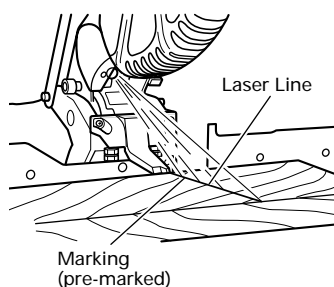

Fig. 17
- (3) After adjusting the position of the laser line, draw a right-angle ink line on the workpiece and align the ink line with the laser line. When aligning the ink line, slide the workpiece little by little and secure it by vise at a position where the laser line overlaps with the ink line. Work on the grooving again and check the position of the laser line. If you wish to change the laser line's position, make adjustments again following the steps from (1) to (3).
**NOTE:** Check and make sure on a periodic basis if the position of the laser line is in order. As regards the checking method, draw a right-angle ink line on the workpiece with the height of about 1-1/2" (38mm) and the width of 3-1/2" (89mm), and check that the laser line is in line with the ink line [The deviation between the ink line and the laser line should be less than the ink line width (0.5mm)]. (Fig. 17)